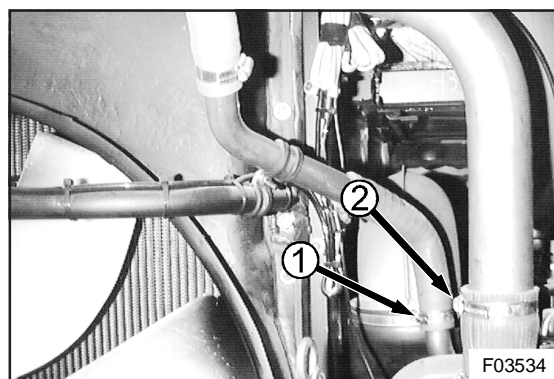

Figure 19: Lower hose clamps of surge tank filler tube (1) and radiator inlet tube (2)
20. On coaches equipped with Cummins engine, sloosen lower hose clamps of surge tank filler tube (1, Figure 19) and radiator inlet tube (2, Figure 19).